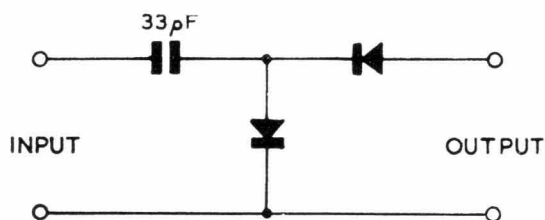

Fig. 1. Peak-to-Peak Detector.
- (iii) A peak-to-peak detector, as shown in Fig. 1.